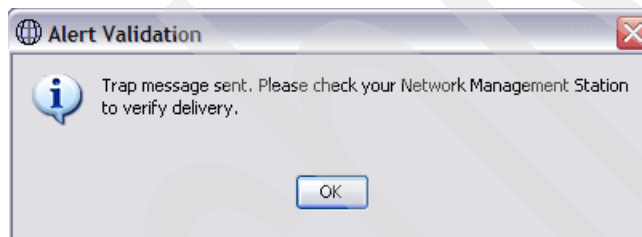

Figure 9-41 Alert Validation window
- ▶ Click **Validate** to send a test trap the RSM for Storage system, as shown in Figure 9-41 on page 379.